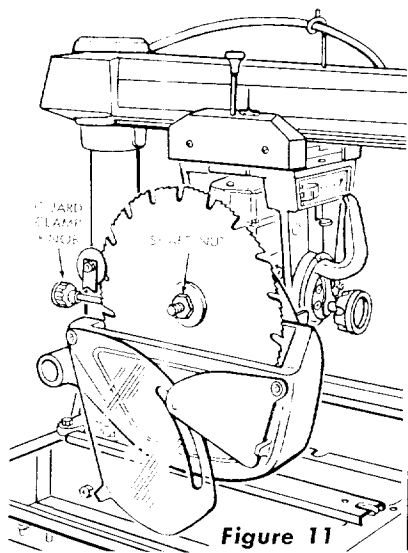

Figure 11
- Loosen the guard clamp knob several turns and rotate the guard to an upside-down position. (See figure 11.) Loosen the knob still further, until indicator groove or the clamp bar is exposed, to allow the guard to drop down far enough to expose the shaft nut.